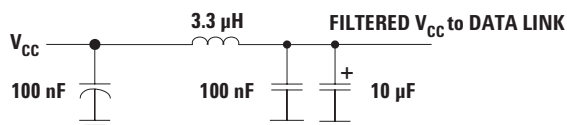

Figure 2 - p Filter Network for Noise Filtering
The receiver includes internal circuit components to filter power supply noise. Under some conditions of EMI and power supply noise, external power supply filtering may be necessary. If receiver sensitivity is found to be degraded by power supply noise, the filter network illustrated in Figure 2 may be used to improve performance. The values of the filter components are general recommendations and may be changed to suit a particular system environment. Shielded inductors are recommended.
- C1 = C2 = 10 μF (see Figure 2)